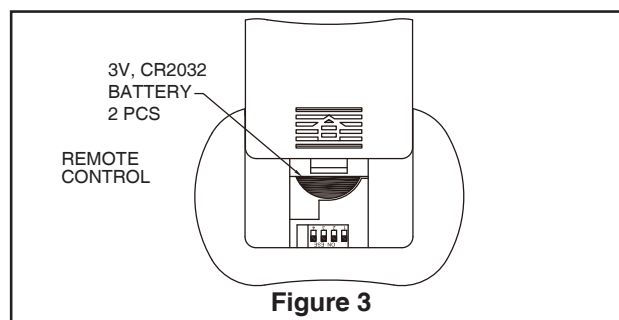

Figure 3
- ☐ 3. To make fan operational, install two 3-volt batteries (included) in the hand-held remote transmitter. If not using for long periods of time, remove battery to prevent damage to transmitter. Store the remote away from excessive heat or humidity. (Figure 3)